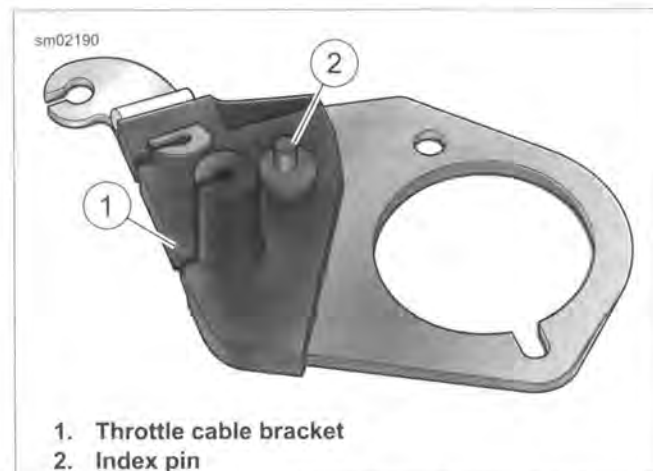

Figure 4-23. Throttle Cable Bracket
4. See Figure 4-23. Insert index pin (2) at bottom of throttle cable bracket (1) into hole in boss at top of induction module.
3. See Figure 4-23. Insert index pin (2) at bottom of throttle cable bracket into hole in boss at top of induction module.